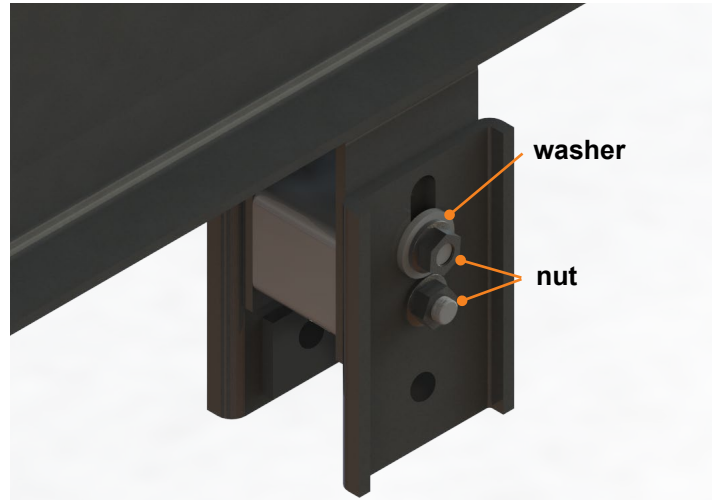
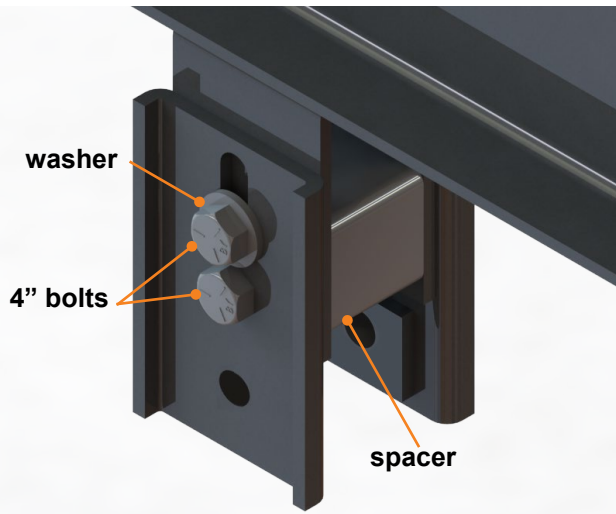

Fig.4
Fig.3
2. Align the center hole of the plate with the bottom hole of the hanger and insert a 7/16" x 4" bolt through the plates, the spacer and the hanger (**Fig. 3**). Torque the nut to 70-80 ft-lbs.
3. Use a 7/16" x 4" bolt and a washer to go through the upper slot, the hanger and the spacer. Install a washer and a nut on the back side of the hanger and plate assembly (**Fig. 3 and Fig. 4**).